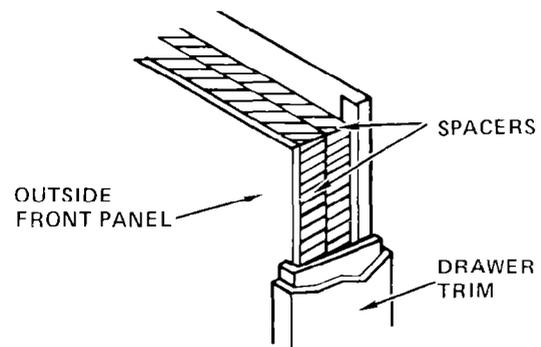

**FIGURE 13**
- Use a pair of scissors and cut toe plate along this line. See Figure 13.